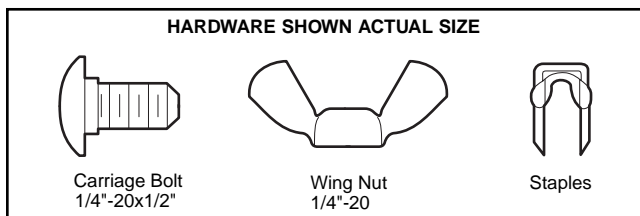

Figure 1 DOOR TRACK MOUNT (RIGHT SIDE)
Garage door track installation (preferred) (Figure 1):
- Slip the curved arms over the rounded edge of each door track, with the curved arms facing the door. Snap into place against the side of the track. It should lie flush, with the lip hugging the back edge of the track, as shown in Figure 1.